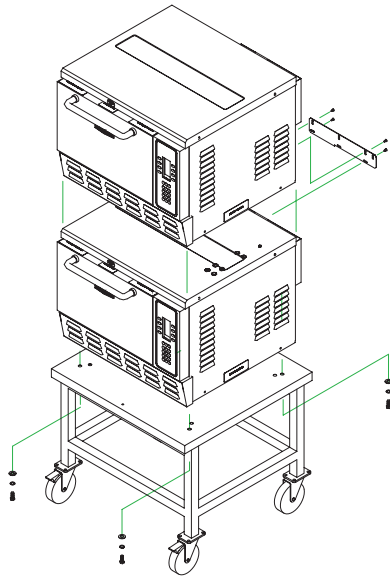

FIGURE 3: Oven Secured to Cart
### Securing Oven to Cart (Figure 3)
6. Install bolts with washers by running them up through the cart surface and into the holes in the oven (where the legs were). See Figure 3.